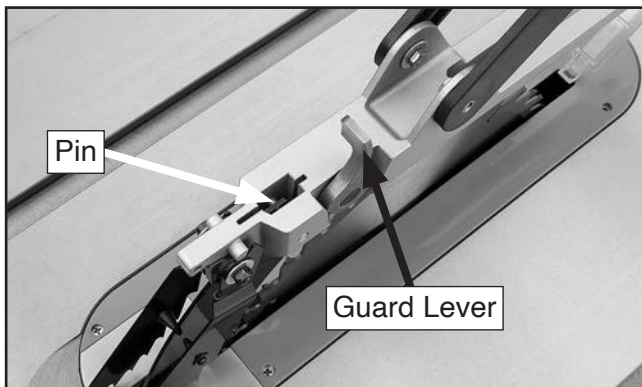

Figure 45. Example of blade guard installation.
7. Push guard lever forward, as shown in **Figure 45**.
8. Insert rear pin on blade guard into rear slot of spreader, then push down on blade guard assembly so forward pin slides into forward slot of spreader (see **Figure 45**).